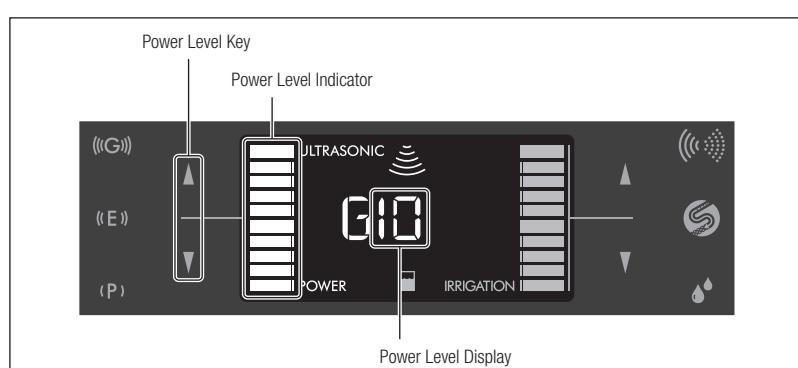

Fig. 20
- 2) Touch the Power Level Key (Δ/∇) to set the Power Level. The Power Level Display and the Power Level Indicator increase or decrease in accordance with the selected level (Fig. 20).